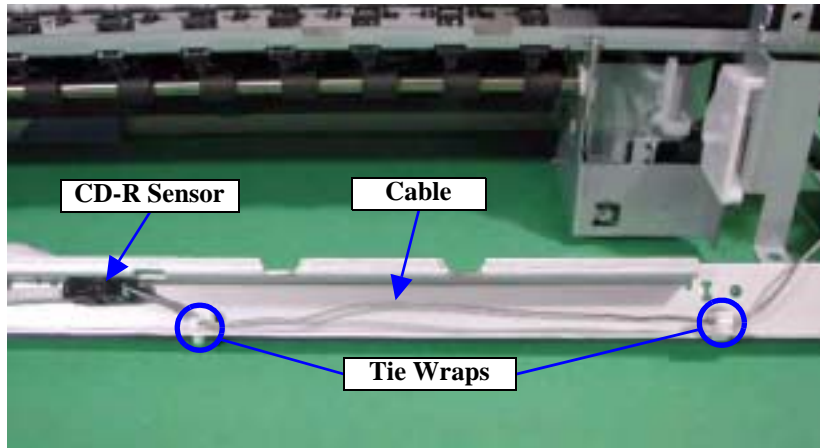

Figure 4-47. Removing the Front Frame
- Connect the Connector Cable of the CD-R Sensor correctly using tweezers. Refer to Figure 4-47, "Removing the Front Frame".
- Fix the Connector Cable of the CD-R Sensor correctly with the Tie Wraps in the Front Frame. Refer to Figure 4-47, "Removing the Front Frame".